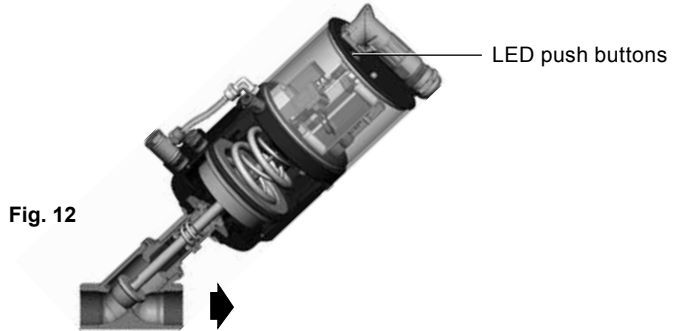

Fig. 12
- Once power is supplied to the valve, wait a few seconds then press and hold the LED push-button for 5 seconds to initiate the set-up cycle (see Figure 12).